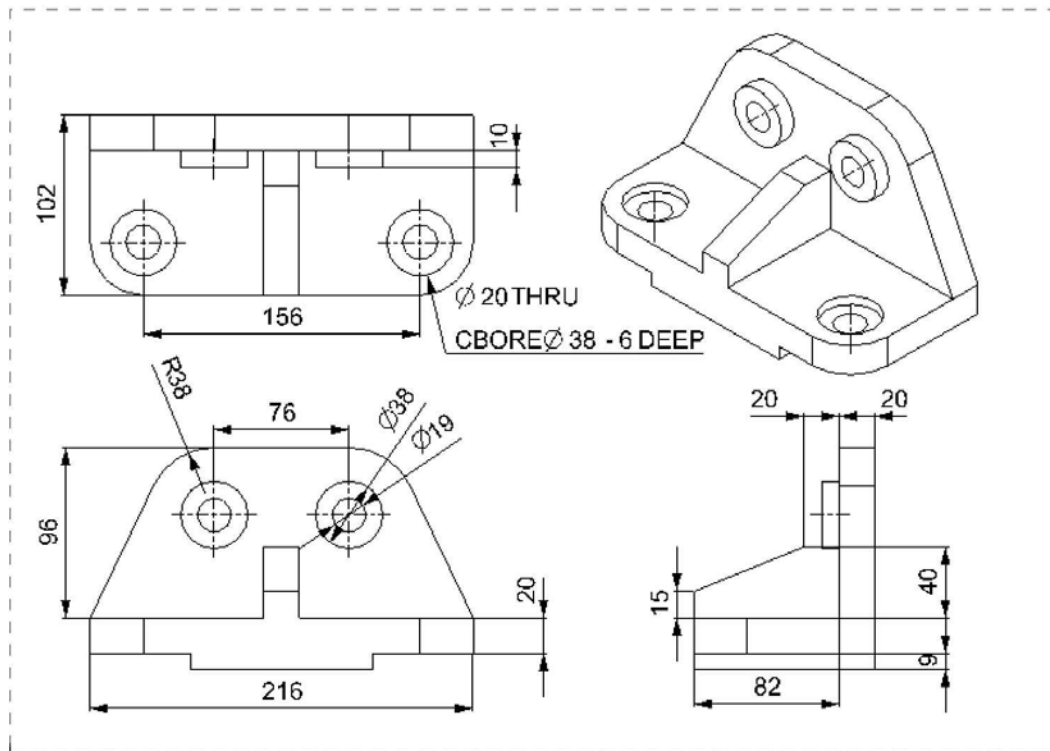

Figure 12-67 The complete drawing sheet after adding the counterbore dimension
1. Choose the **Rapid** tool from the **Dimension** group and create all the dimensions required for the top view, refer to Figure 12-67.
3. Select the **Hole Callout** option from the **Method** drop-down list of the **Measurement** rollout. Select the **38** mm diameter circle from the top view and place the dimension. Next, press the ESC key. The hole dimension will be created, as shown in Figure 12-67.